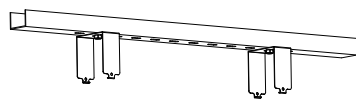

Figure 5
- Step 1. Mount the bracket on the rail or ceiling; (Figure 5)